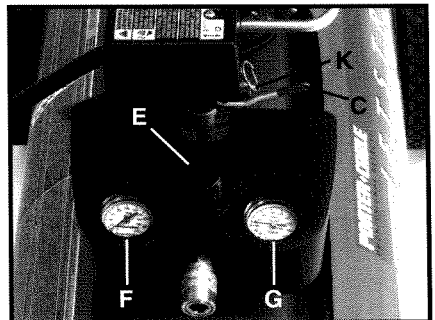

Fig. 3
**ON/AUTO - OFF Switch (C) Fig. 3:** Turn this switch ON to provide power to the automatic pressure switch and OFF to remove power at the end of each use.
**Regulator (E) Fig. 3:** The air pressure coming from the air tank is controlled by the regulator. Pull up on the regulator knob to UNLOCK. Turn the regulator knob clockwise to increase pressure and counterclockwise to decrease pressure. To avoid minor readjustment after making a change in pressure setting, always approach the desired pressure from a lower pressure. When reducing from a higher to a lower setting, first reduce to pressure less than that desired, then bring it up to the desired pressure. Depending on the air requirements of each particular accessory, the outlet regulated air pressure may have to be adjusted while operating the accessory. Push down on regulator knob to LOCK at desired setting.
**Outlet Pressure Gauge (F) Fig. 3:** The outlet pressure gauge indicates the air pressure available at the outlet side of the regulator. This pressure is controlled by the regulator and is always less than or equal to the tank pressure. See "Operating Procedures".
**Tank Pressure Gauge (G) Fig. 3:** The tank pressure gauge indicates the reserve air pressure in the tank.
**Safety Valve (K) Fig. 3:** If the pressure switch does not shut off the air compressor at its cutout pressure setting, the safety valve will protect against high pressure by “popping out” at its factory set pressure (slightly higher than the pressure switch cut-out setting).